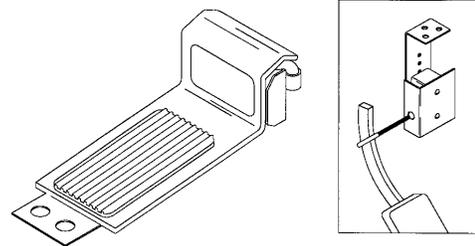

Figure 4-1
1. Mount the clutch switch in a convenient location near the clutch pedal so that movement of the clutch pedal will contact the clutch switch actuator arm. See Figure 4-1.